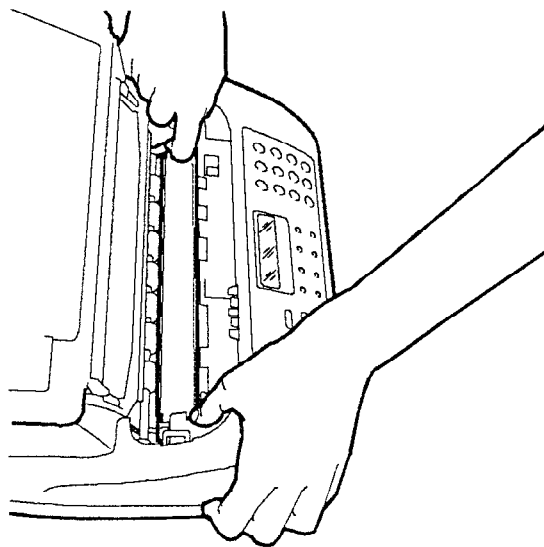

Fig. 7-5
- 2) Move the print head against the left side, then lift the optical unit screen acting on the right side lever (fig. 7-5).